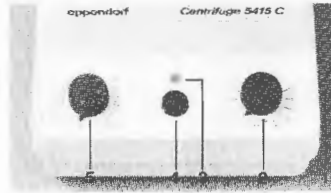

Fig. 2:
3. Operating controls (Fig. 2)